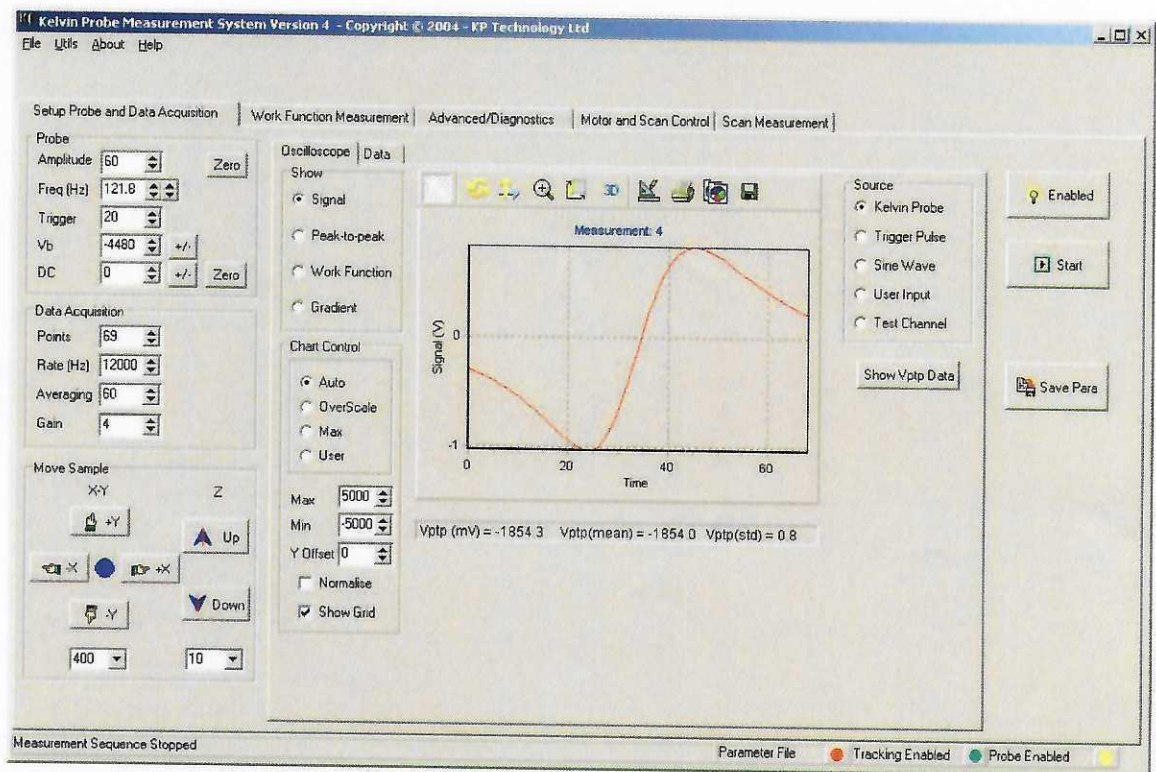

Figure 17. Effect of changing V_b from 4480 mV to -4480 mV. The phase of the signal has changed approximately 180°
9. If the backing potential V_b is changed from +5000 mV to -5000 mV then the signal phase should shift through 180° , see Figure 17. Note that the peak-to-peak heights of the associated signals will not necessarily be the same. When automatic WF measurements are performed such well developed low-noise measurements at $+V_b$ and $-V_b$ are a prerequisite of high quality data.